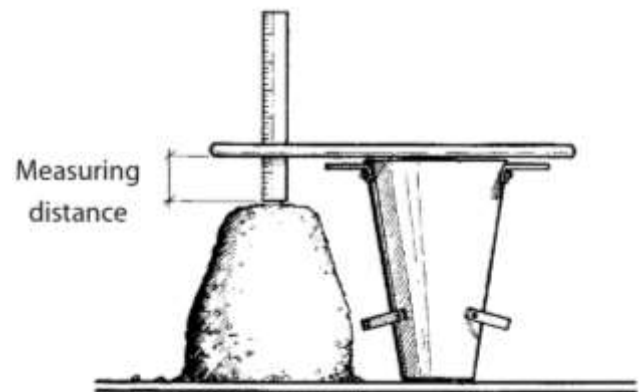

Figure 3
10. Carefully measure the distance between the bottom of the tamping rod and the highest point of the concrete to the nearest 5 mm (see Figure 3).